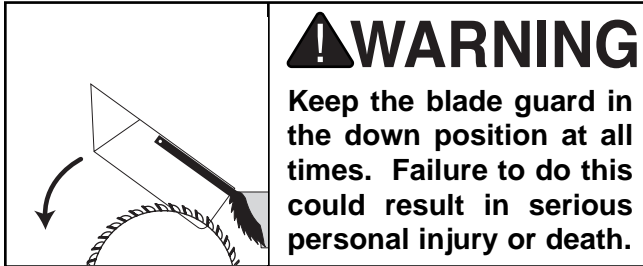

Figure 50. Cross-cut operation.
7. Hold the workpiece firmly against the face of the miter gauge and ease it into the blade as shown in **Figure 50**.